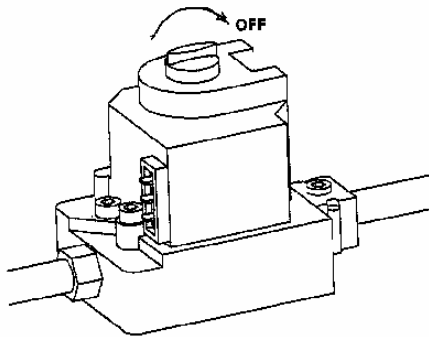

Fig. 7
5. Turn the gas control knob clockwise to the 'OFF' position. (Fig. 7)